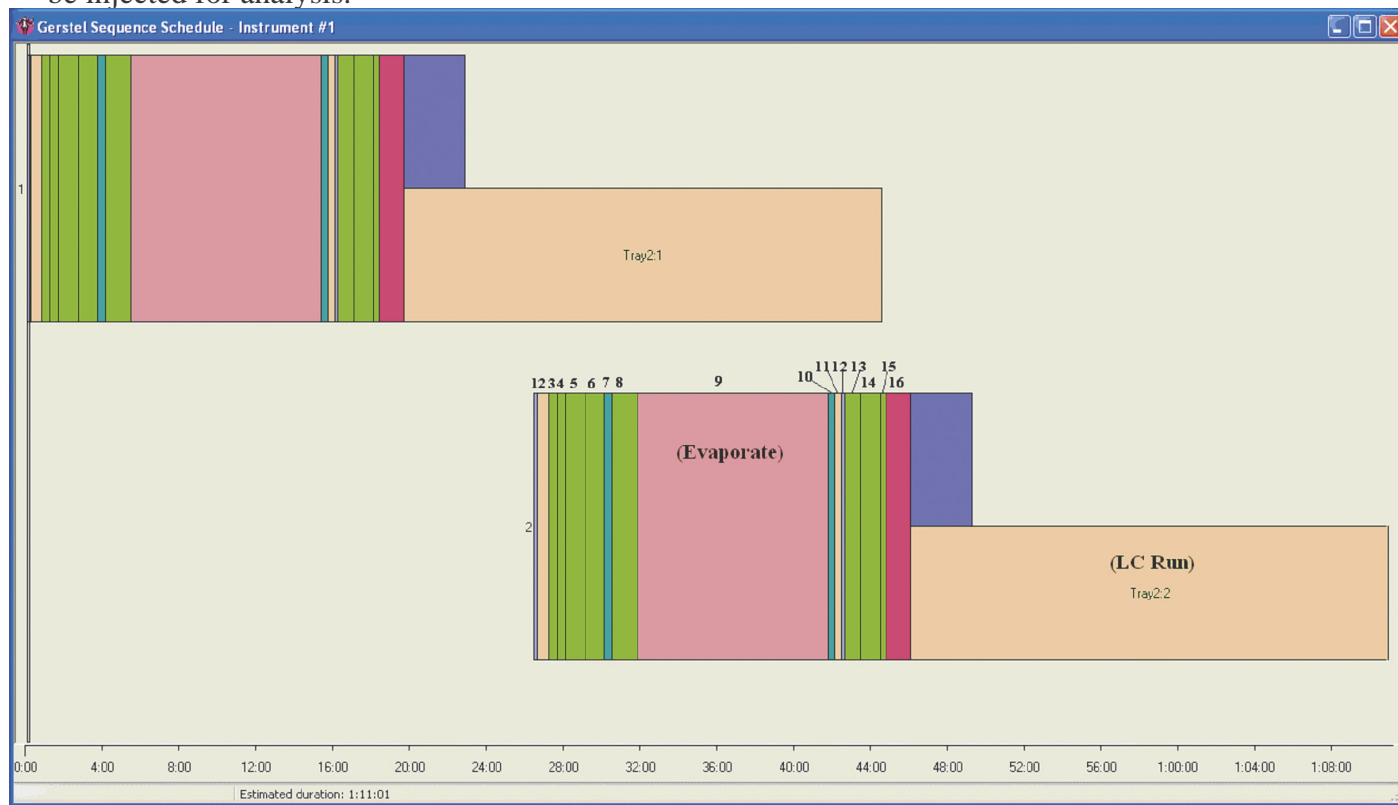

Figure 9. MAESTRO sequence scheduler associated with automated SPE method.
- The sequence schedule preview graphically displays all method steps included in the Prep Sequence as well as the duration of each step. The methods labeled in Figure 9, correspond to the Prep Sequence method lines labeled in Figure 8.
- The sequence schedule preview graphically displays all method steps included in the Prep Sequence with their relevant duration. The methods labeled in Figure 9, correspond to the Prep Sequence method lines labeled in Figure 8.